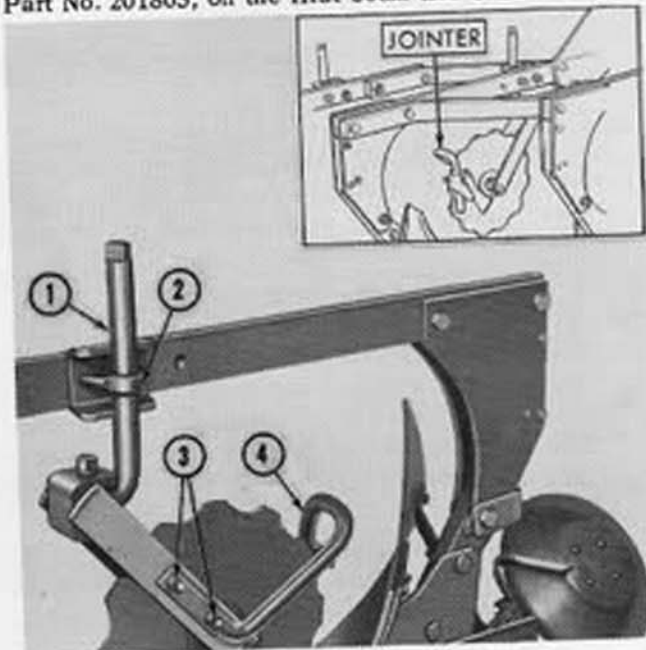

Figure 18
Rolling coulters, Figure 18, are available in 16 or 18 inch diameters with smooth or notched blades. Notched blades do a better job of cutting in heavy trash.
Attach the stem (1), Figure 18, to the plow beam with the U-bolt and seat (2), as shown. Adjust the coulters as directed under Pre-Field Adjustments. Tighten the U-bolt nuts securely.
Bolt the jointer arm (4), Figure 18, to the left side of the coulter fork with two carriage bolts, lock washers, and nuts (3). Adjust the jointer so the point lightly touches the coulter about 2" above the lower edge of the blade.